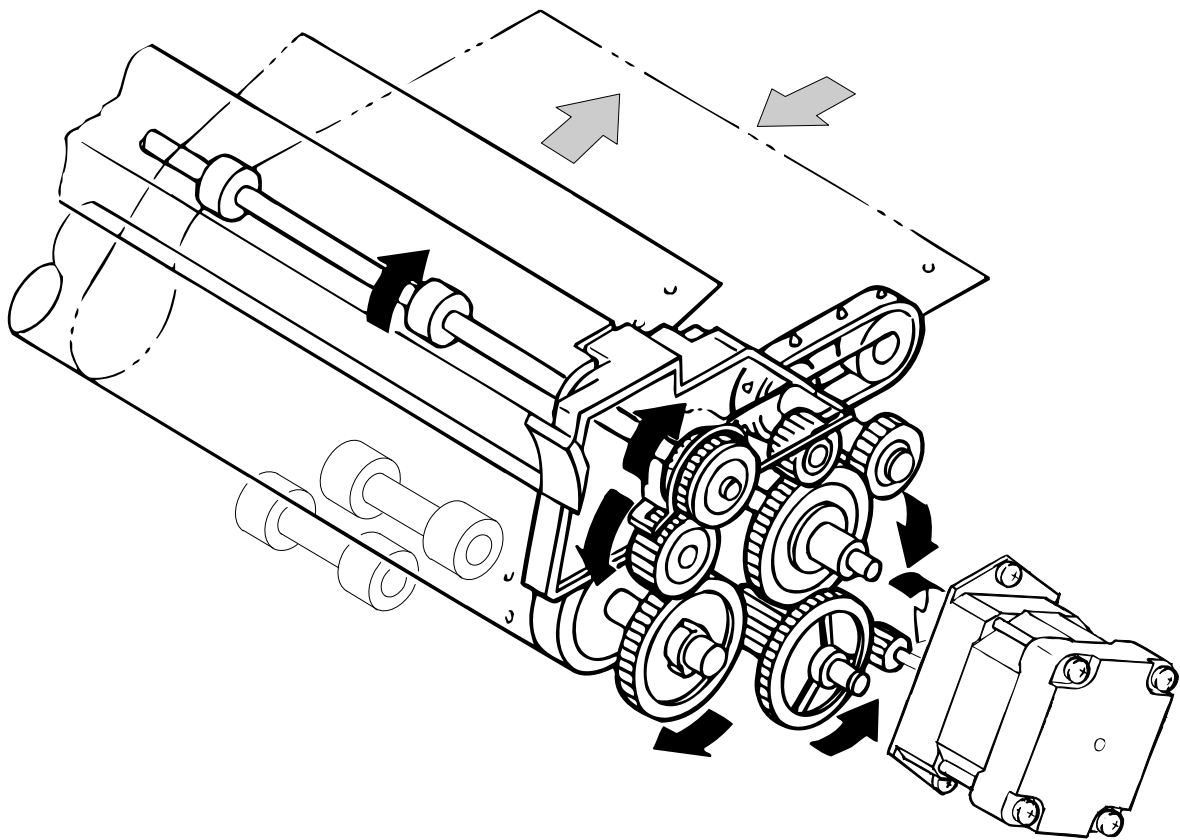

Figure 2-5 Friction Advance Operation Using the Top Entrance
Paper is held between the platen and the paper guide rollers and between the paper tension roller and paper tension unit cover. The paper feed (PF) motor pinion gear, turns in the direction of the black arrow, driving the paper advance reduction gear. The paper advance reduction gear turns the platen gear and paper tension roller gear. Paper advances in the direction of the white arrow. Figure 2-5 shows the friction advance method when paper is fed through the top paper entrance.